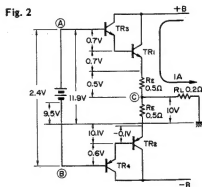

Fig. 2
2) Bias voltage in operation and occurrence of switching distortion (See Fig. 2)